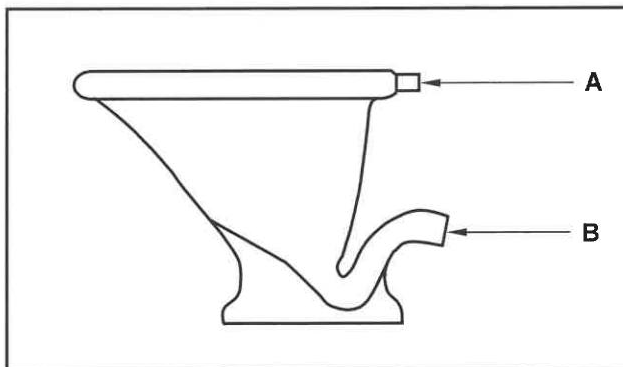

FIGURE 6.2
6.2 FIGURE 6.2 below shows a water closet pan.